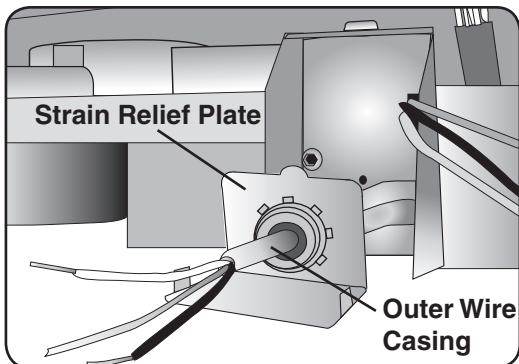

Figure 31
- 2 Pass the electrical supply cable through the strain relief, as shown in **Figure 31**. Make sure the outer wire casing extends about 1/2" (13mm) through the strain relief.